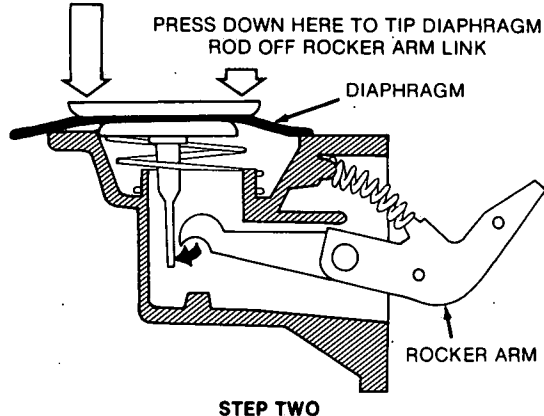

FIGURE 14. REMOVAL OF J-SERIES DIAPHRAGM ASSEMBLY
3. To release the pump diaphragm, press down on the base of the diaphragm at the edge farthest from the pump mounting flange. Without releasing this edge, press down on the opposite edge. This action will unhook the diaphragm actuating rod from the rocker arm link (Figure 14).
1. Lubricate the diaphragm actuating rod and install the new diaphragm in the pump. Reverse the procedure used for removal, rolling back the diaphragm fabric to view the rocker arm link (Figure 14). Hold the pump body upside-down so that the weight of the link will keep it within reach of the diaphragm actuating rod.